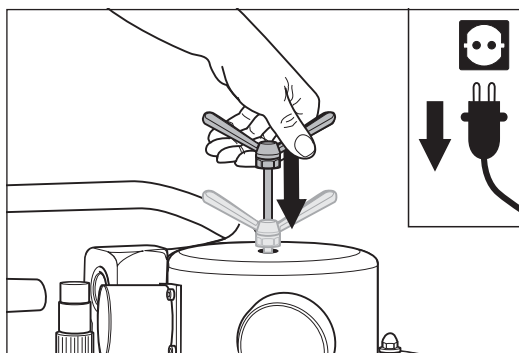

Fig. 74 Push the cleaning slide as far as possible into the dust separator.
- 5 Now it is time to push the cleaning slide all the way down to center the system (fig. 74). Otherwise the system will be very hard to work with later.